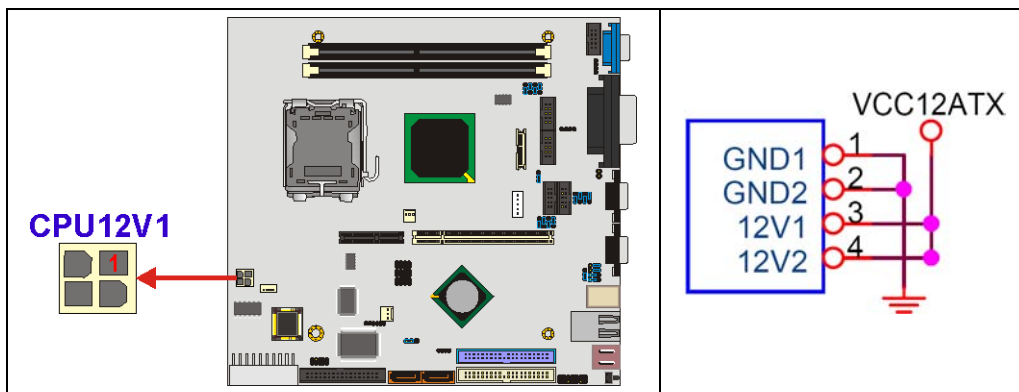

Figure 3-3: ATX 12V Power Connector Location
- CN Location:** See Figure 3-3